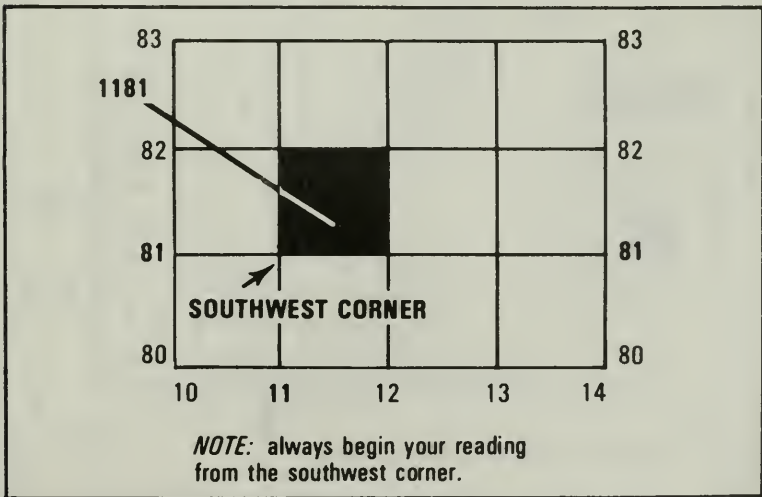

Figure 26. Grid square 1181.
1. Look at Figure 26. Your address is grid square 1181. How do you know this? Start from the left and read right until you come to 11, the first half of our address.